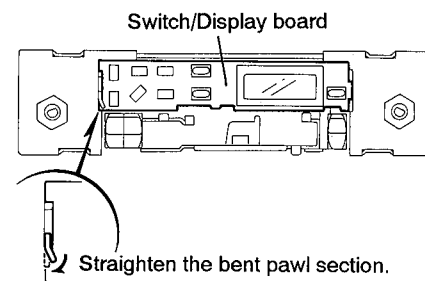

Fig. 2-5
■ Cassette mechanism assembly (Figs. 2-5, 2-6, 2-7)
2. Remove two flat head screws (5) retaining the cassette mechanism assembly from the chassis.
3. Before disassembling the mechanism assembly into a single mechanism unit, remove the switch/display board. (Fig. 2-5)
5. Place the set upside down, and remove two flat head screws (6) retaining the cassette mechanism assembly.